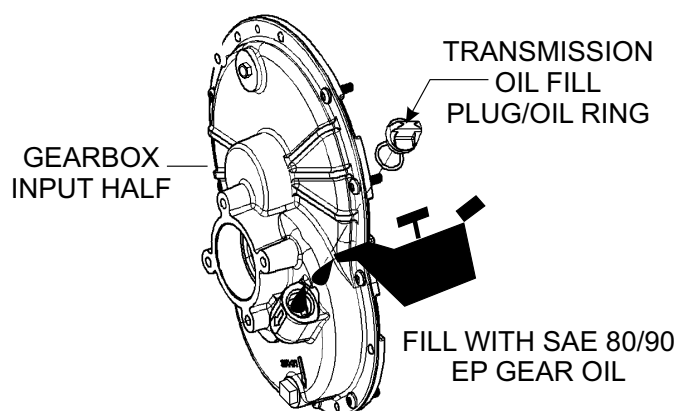

Figure 8. Transmission Oil Level
2. Next, remove the transmission oil fill plug and o-ring from gearbox input half as shown in Figure 8.
3. Grease connecting rod bearing thru the access hole (Figure 8) every 25 hours of operation.